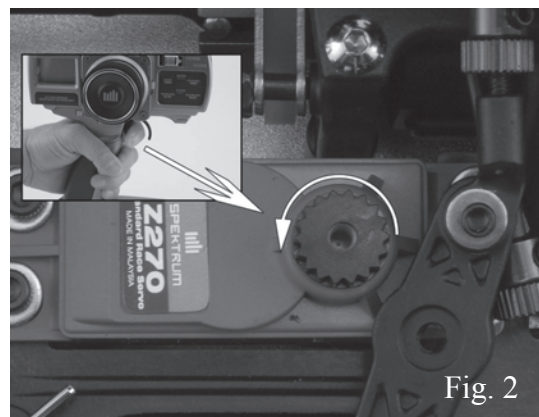

Fig. 2
2. With the servos, receiver, switch and charged receiver battery installed and connected, turn on the radio tray. When throttle is applied, ensure the servo is rotating in the proper direction. (Fig. 2)